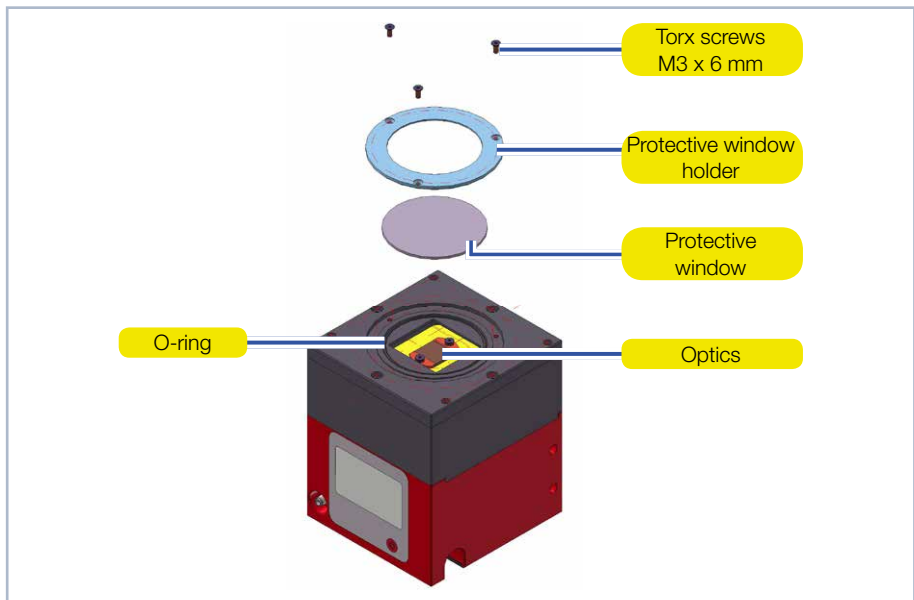

Fig. 16.1: Exchanging the protective window on the Cube L1
3. Place the device as shown in Fig. 16.1 on page 49 and carefully remove the protective window holder upwards.
6. Place the protective window holder according to Fig. 16.1 on page 49.